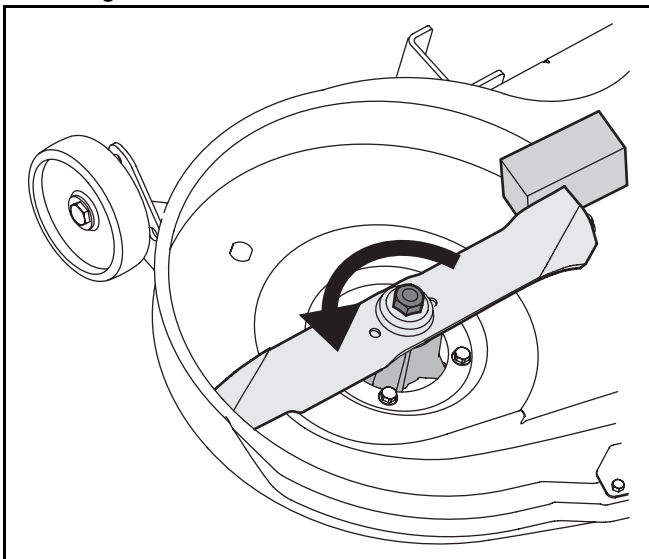

Figure 2
2. Place a block of wood between the deck housing baffle and the cutting blade to act as a stabilizer, then use a wrench to remove the hex flange nut that secures each blade to its spindle assembly. Refer to Figure 2.